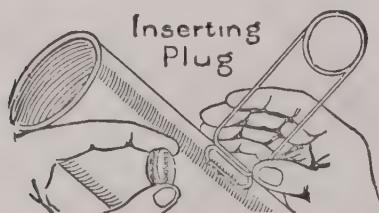

Fig. 109.
*Second.*—Insert the ends of the wire spreader into the hole made by the above process ; then by compressing the spreader, stretch the hole as in Fig. 109.